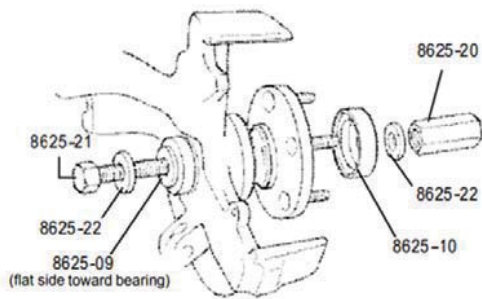

Figure 4
6. Assemble tool components as shown in Figure 4 to install the hub.